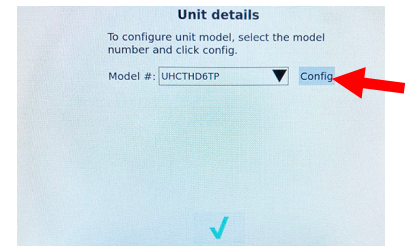

Figure 37
49. Once the model is selected, press the **Config** button (see Figure 37).